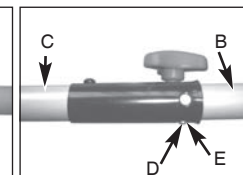

Fig. 3B
2. While firmly holding the attachment (B), push it straight into the Quick-Change coupler (C) until the release button (D) appears in the primary hole (E) of the Quick-Change coupler. (Fig. 3B)